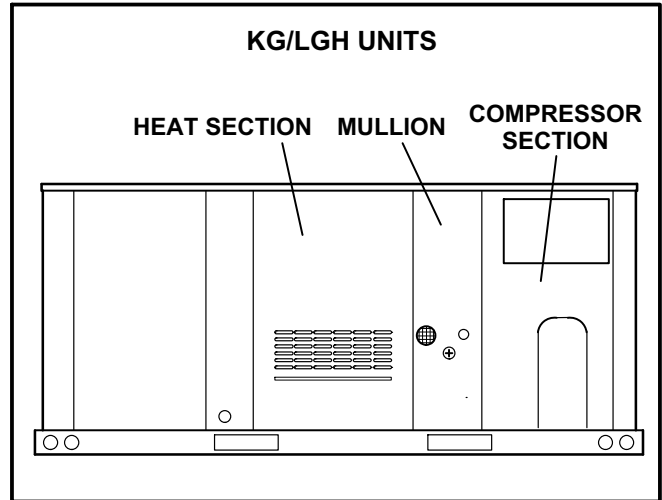

FIGURE 1
2. Open the control and heat section access panels. See figure 1, 2, or 3.